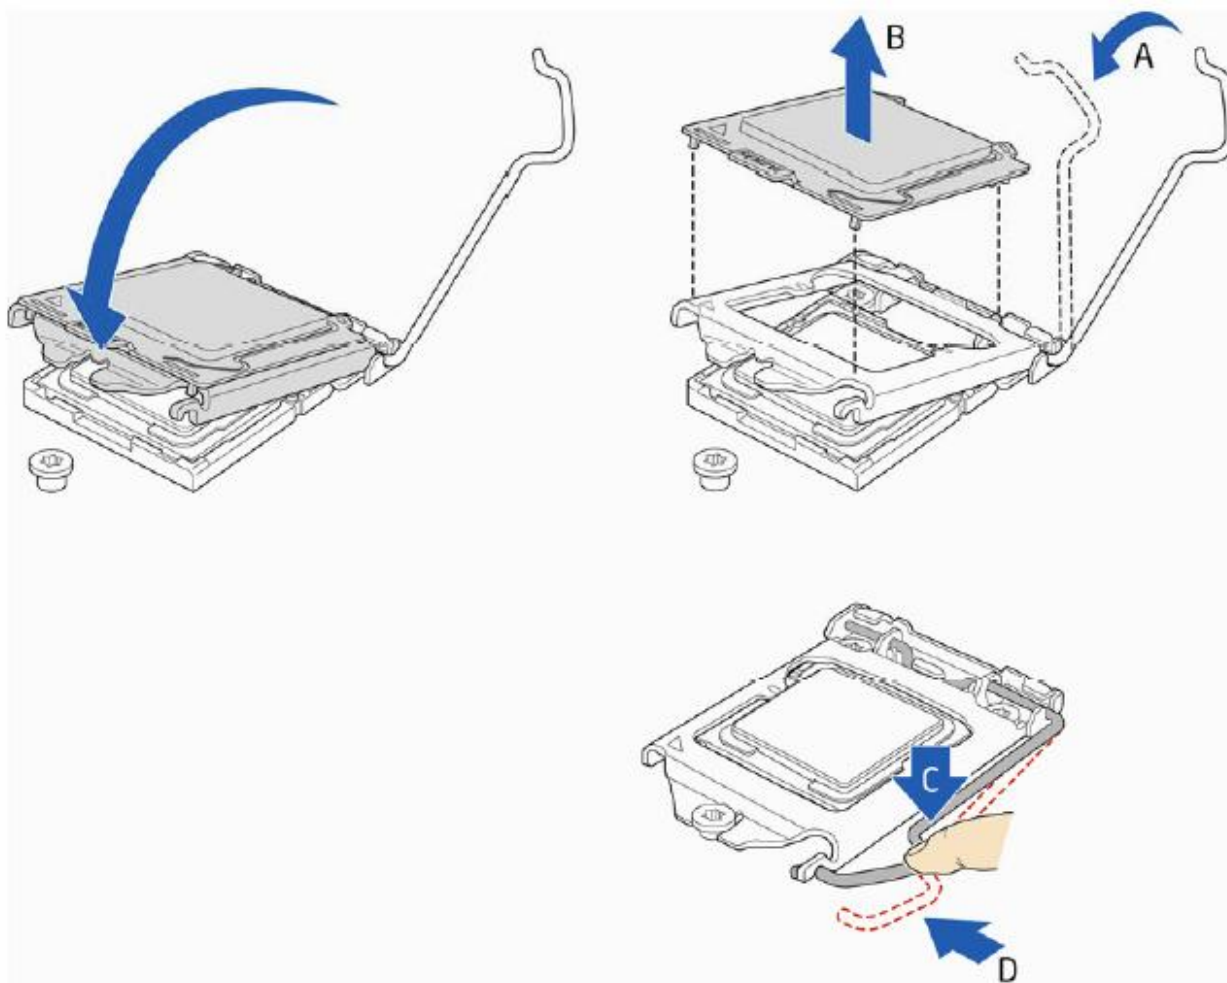

Figure 25: Secure the load plate in place
- Carefully lower the socket lever (Figure 25, A) while making sure that the front edge of the load plate slides under the shoulder screw cap as the lever is lowered. Latch the socket lever under the load plate tab (Figure 25, C, and D). The socket cover (Figure 25, B) will pop off as shown.